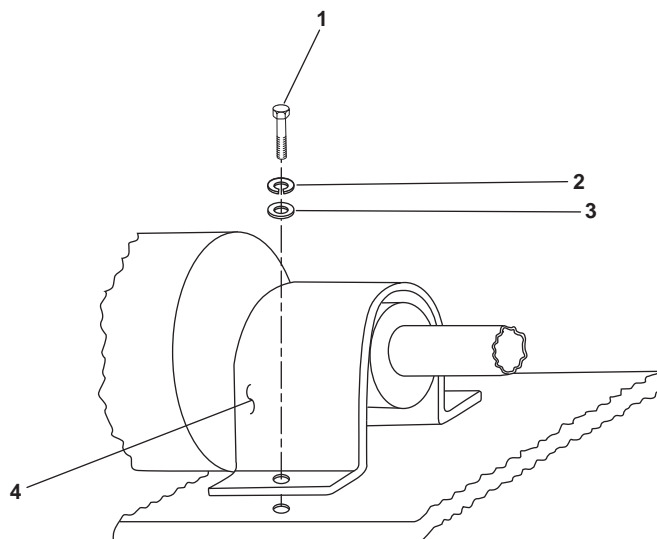

Figure 2. AFFF Pump Coupling Cover
5. Remove the two bolts (figure 2, item 1), two lockwashers (figure 2, item 2), and two flat washers (figure 2, item 3).
6. Remove the coupling cover (figure 2, item 4), and discard the lockwashers (figure 2, item 2).